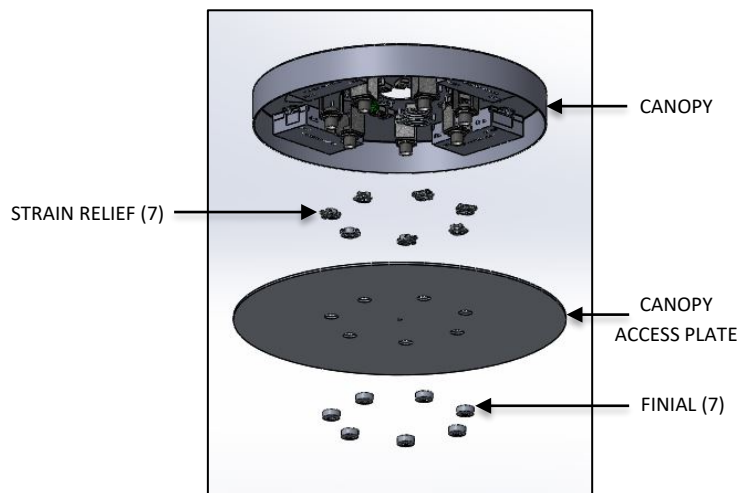

FIG. 4 CANOPY
- a. CANOPY (as shown in FIG. 4)